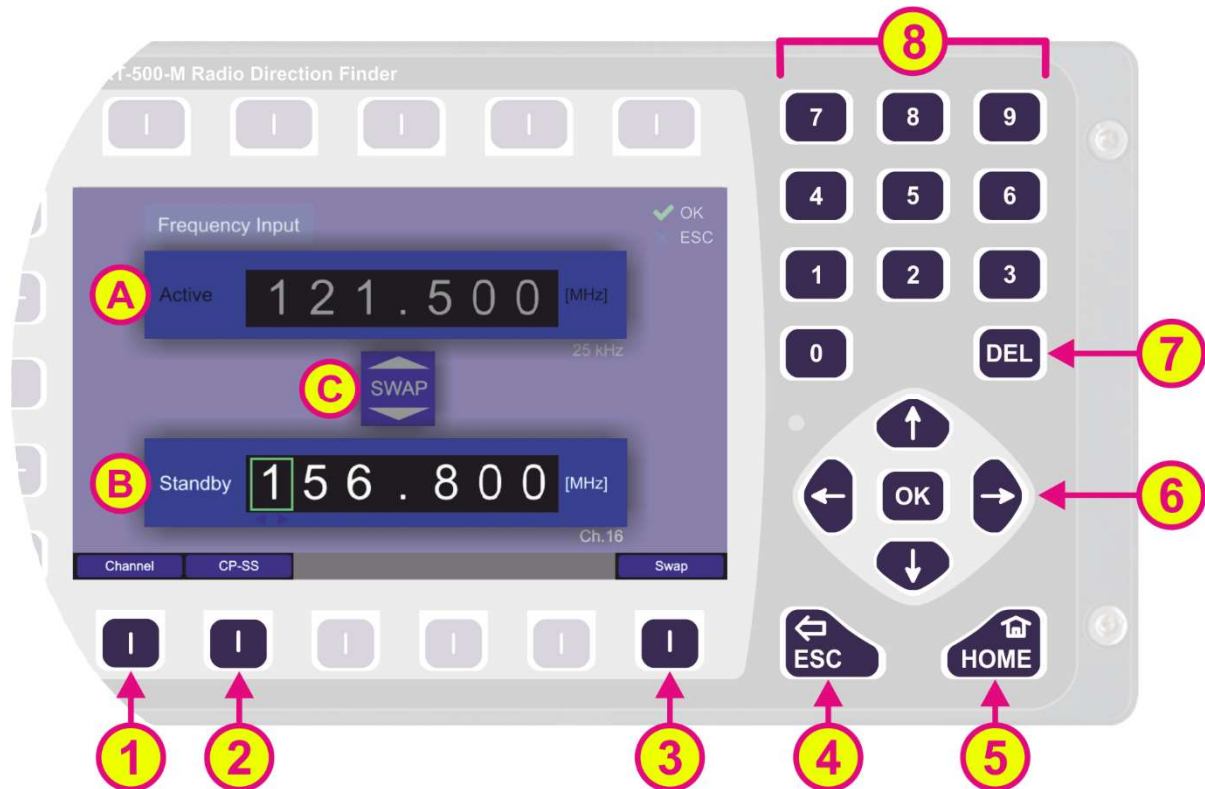
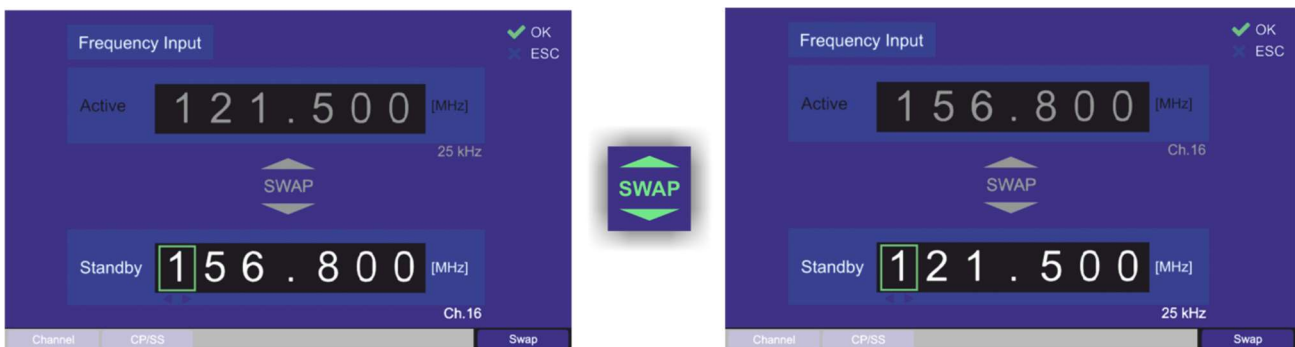
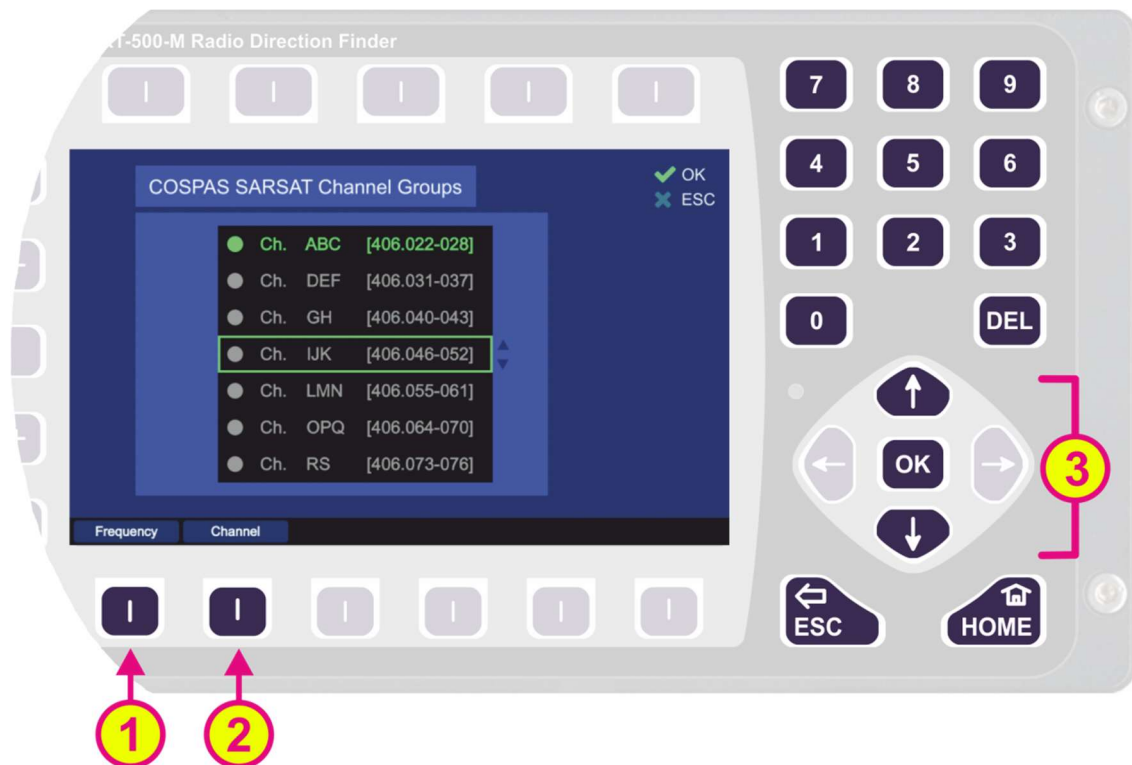

Figure 14. Input of a new frequency
Figure 15. Swap frequencies
Figure 20. Input of a new COSPAS-SARSAT frequency
- Section “Active... [MHz]”, which shows the currently active frequency (s. Figure 14, field A).
- Section “Standby ... [MHz]”, which allows the input of a new frequency (s. Figure 14, field B).
- “SWAP” function (s. Figure 14, field C and position 3) allows switching between the two displayed frequencies.
The input of digits can be done with the numerical buttons on the front of the device (s. Figure 14, field 8).
The arrow buttons “up” and “down” (s. Figure 14, field 6) allow the input of the frequency/channel, using a sophisticated input scheme. Depending on the other digit values, that are already set, the system allows the selection of only correct numbers for the current digit.
- The “DEL” button (s. Figure 14, position 7) deletes the whole input.
- Pressing the “OK” button (s. Figure 14, field 6) adopts the frequency value as the new “Standby” value. This is not possible until the input is complete and valid from the first to the last digit (s. warnings in Table 7).
- Pressing “Swap” hotkey (s. Figure 14, position 3 and field C) sets the “standby” frequency to the active bearing frequency and the previously active frequency is set to “standby” (s. Figure 15).
- Pressing the “CP/SS” hotkey (s. Figure 14, position 2) opens the dialog variant for selecting “Cospas-Sarsat” frequency groups (description s. page 33).
- Pressing the “ESC” button (s. Figure 14, position 4) closes the dialog without saving changes.
- Pressing “HOME” button (s. Figure 14, position 5) closes the dialog without saving changes and leads to the bearing page.
The hotkey “CP-SS” (s. Figure 14, position 2) opens a drop-down menu with selectable Cospas Sarsat frequency groups. The currently active frequency group is highlighted in green, whereas the other groups are gray. By pressing the “up” and “down” arrows (s. Figure 20, position 3), the green frame moves and marks the next frequency group, which can be selected by pressing “OK”. Pressing “ESC” will close the dialog without adopting the new frequency.
With hotkeys “Frequency” or “Channel” (s. Figure 20, positions 1 and 2) the corresponding variant of the input dialog is selected.